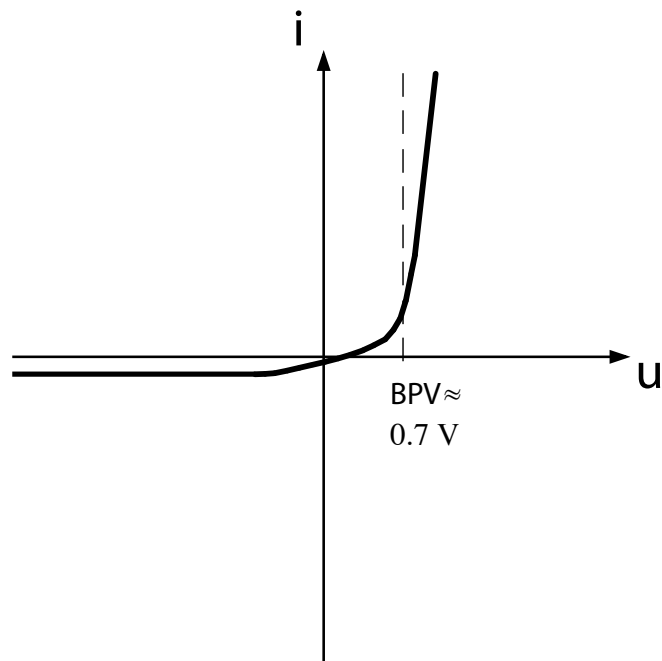

Figure 3.6: Current-voltage (I-V) characteristic of a diode.
The diode is a semiconductor. Figure 3.6 presents the current-voltage characteristic of a diode. A diode only conducts when the voltage at the anode (A) is higher than the voltage at the cathode (C) (this is called forward bias). In Figure 3.6, an example for the break point voltage (BPV), at which the diode starts to conduct, is shown approximately around 0.7 V. Note that in the forward bias, the current increases exponentially with the voltage. If the voltage at the cathode is higher than the voltage at the anode (reverse bias), only a very small current will flow through the diode, essentially making it behave as an open circuit.